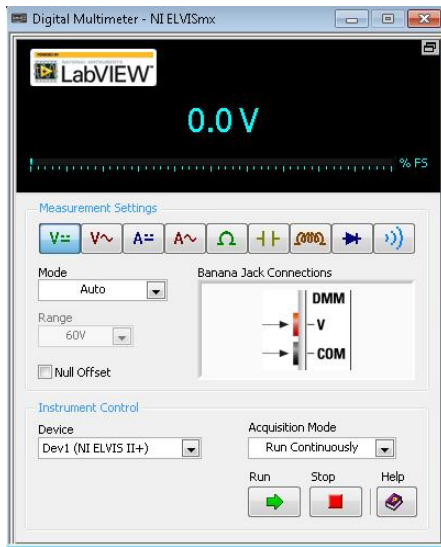

Figure 2 ELVIS device number
3. Check the ELVIS device number shown in the drop down menu in the lower left of the Digital Multimeter, Figure 2.